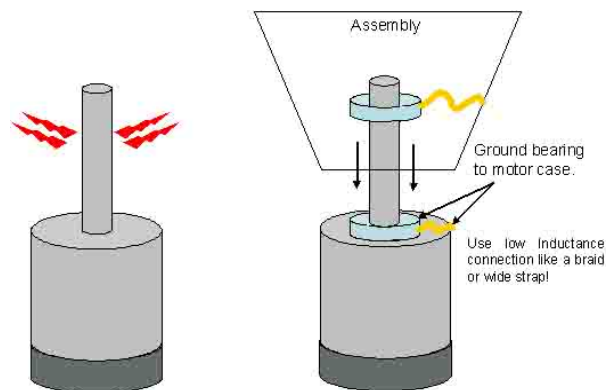

Figure 12. Bearing and bushings should be properly grounded if a shaft extends into an assembly.
- G. For motors that have a shaft that extends into an assembly, the shaft can become an antenna that radiates noise as shown with the crimping tabs. To reduce radiated noise, ensure that metal bearings or bushings are properly grounded to the housing (Figure 12).